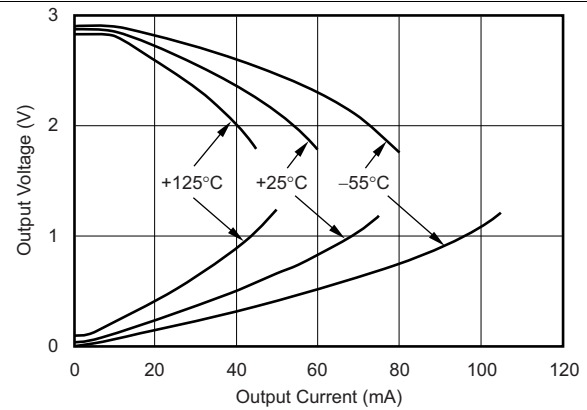
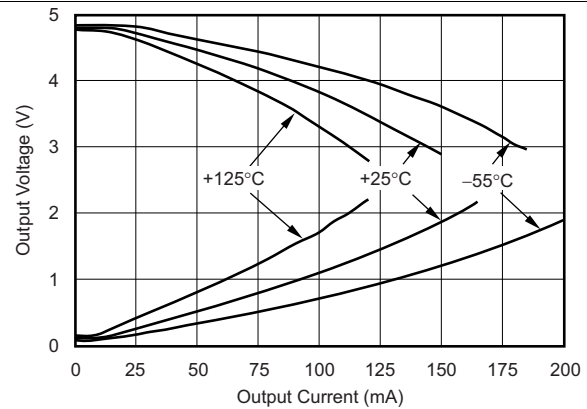

Figure 20. Output Voltage Swing vs Output Current for $V_S = 3\text{ V}$
Figure 22. Output Voltage Swing vs Output Current for $V_S = 5\text{ V}$
(1) See typical characteristic curves, *Output Voltage Swing vs Output Current* (Figure 20 and Figure 22).
(2) Specified by design.
A class AB output stage with common-source transistors is used to achieve rail-to-rail output. For high-impedance loads ($> 200 \Omega$), the output voltage swing is typically 100 mV from the supply rails. With $10\text{-}\Omega$ loads, a useful output swing can be achieved while maintaining high open-loop gain. See the typical characteristic curves, *Output Voltage Swing vs Output Current* (Figure 20 and Figure 22).
The TLV3544-Q1 output stage can supply a continuous output current of ± 100 mA and yet provide approximately 2.7 V of output swing on a 5-V supply, as shown in Figure 30. For maximum reliability, TI does not recommend running a continuous DC current in excess of ± 100 mA. Refer to the typical characteristic curves, *Output Voltage Swing vs Output Current* (Figure 20 and Figure 22). For supplying continuous output currents greater than ± 100 mA, the TLV3544-Q1 may be operated in parallel, as shown in Figure 31.